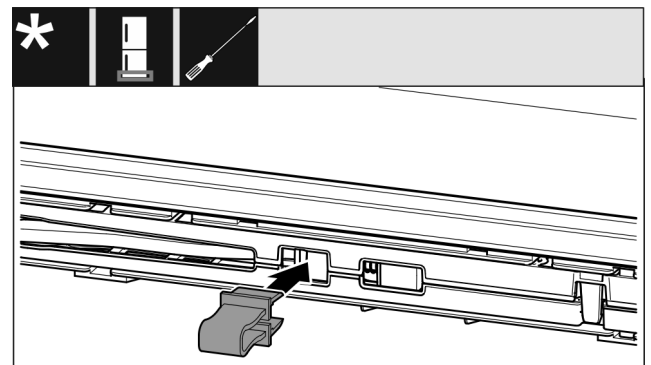

Fig. 13
- ▶ Snap the locking device into the opening. (see Fig. 13)